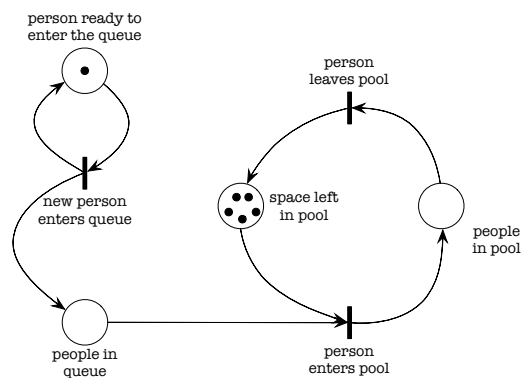

Figure 2 Solution for problem 8.
8. A possible solution is shown in Figure 2.